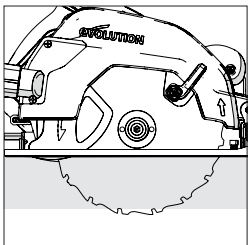

Fig. 12
- In most cases the cutting depth should be set at the thickness of the material to be cut plus the depth of half of a saw tooth (tip of the tooth to the tooth root). (**Fig.12**)
(13) CUTTING ANGLE (BEVEL) ADJUSTMENT